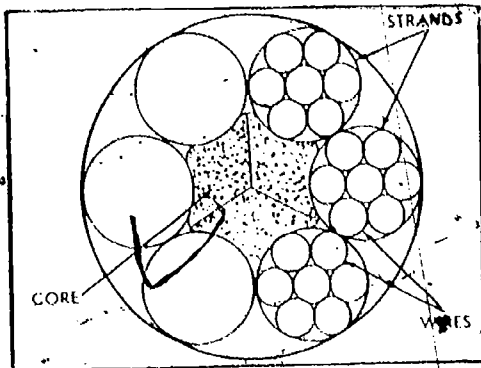
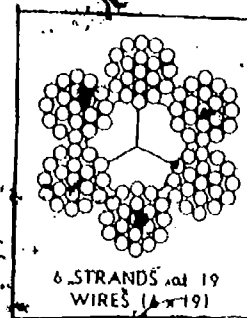

Fig 7-1. Parts of a wire rope.
Fig 7-2. Strand arrangement.
- (1) Center. A wire rope consists of a number of strands (usually 6) twisted around a center, or core. This may be an independent wire-rope center or a hemp center. The wire-center rope is less flexible than a hemp-center rope, but is stronger. A hemp center will provide a means of continuous lubrication.
- (2) Strands. A wire rope is designated by the number of strands it contains and by the number of individual wires twisted together to form each strand (fig 7-1). A 6 x 19 wire rope, for example, contains 6 strands, and each strand contains 19 wires (fig 7-2).